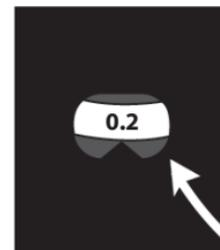

Fig. 3
10. Read the number displayed in the lower opening of the front of the comparator. The number displayed is the concentration of iron (ppm). (Fig. 3)